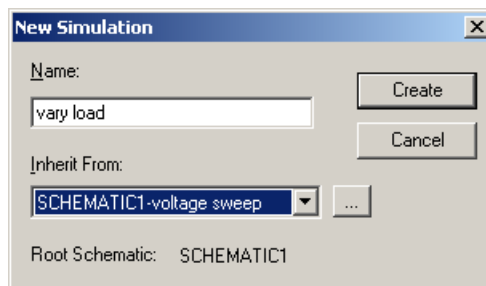
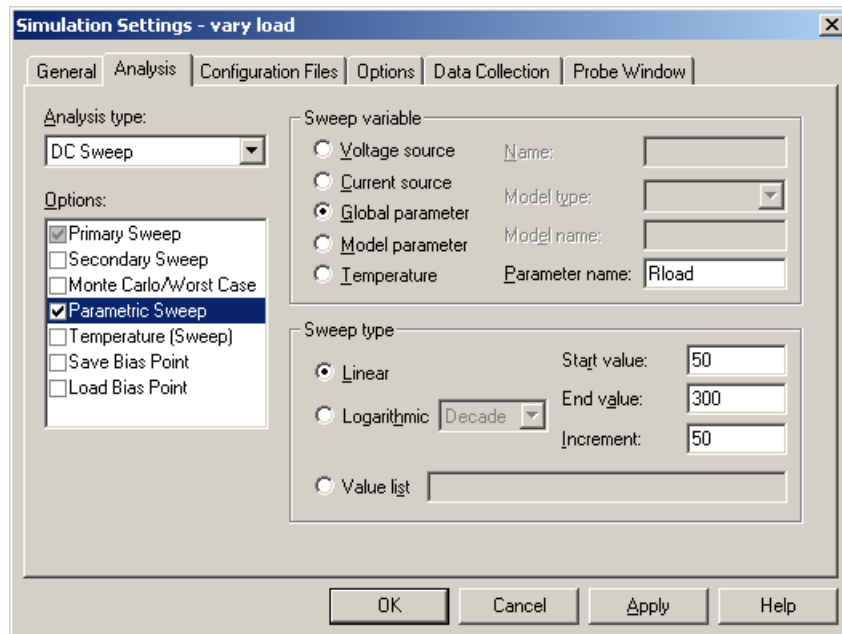
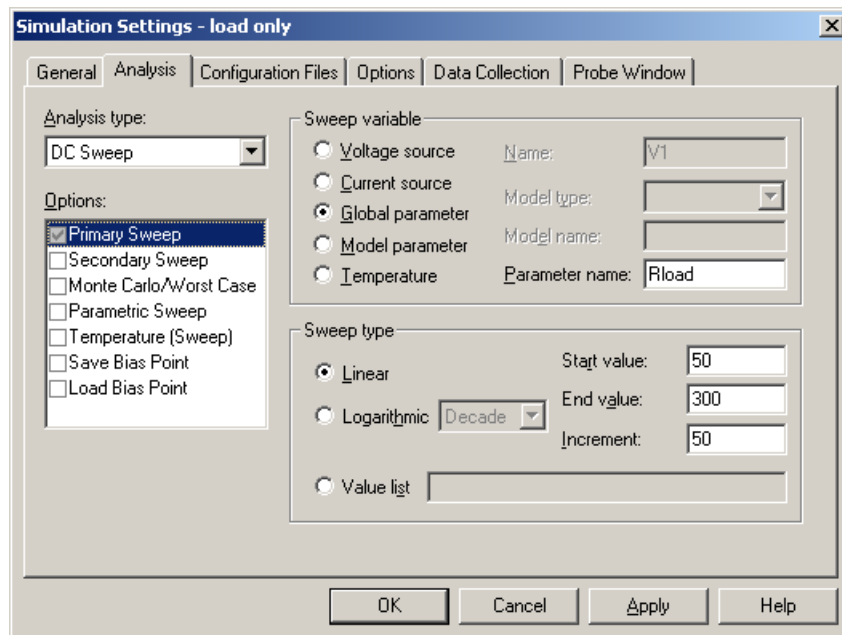
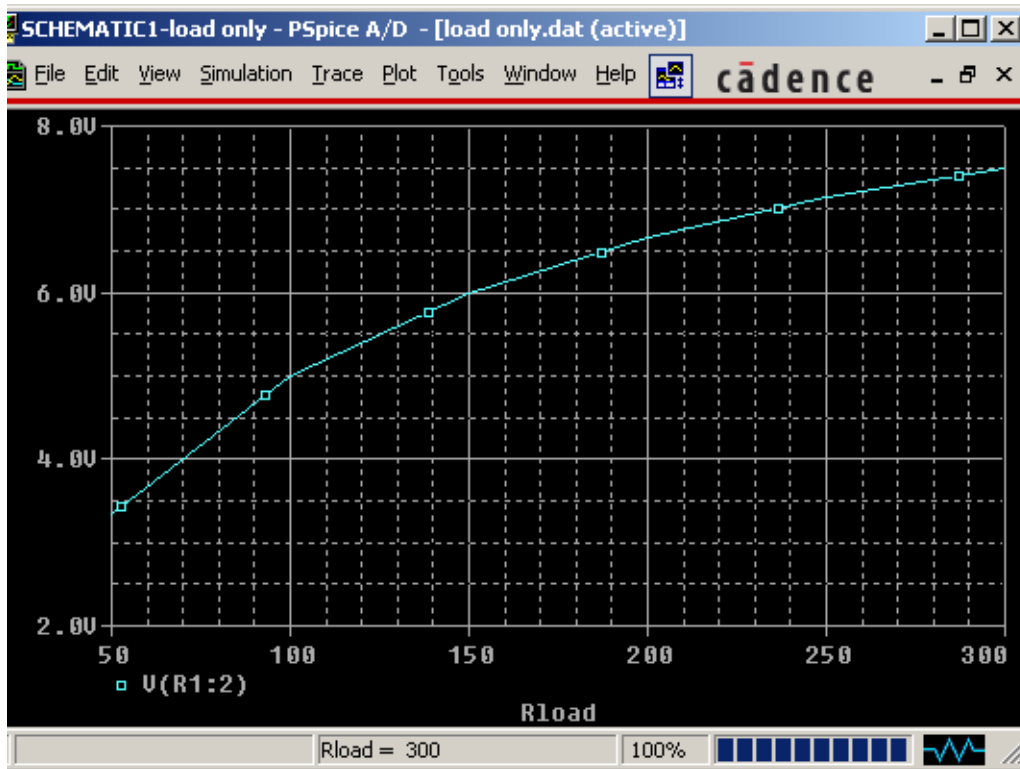

Figure 21: Dialogue box to create a new simulation profile, vary load, based on the previous profile voltage sweep.
Figure 22: Simulation settings for adding a parametric sweep to the previous DC sweep.
Figure 24: Simulation settings for a parametric sweep alone. The Analysis type is DC sweep.
Figure 25: Plot of voltage as a function of Rload.
- Create a new simulation profile. This time it is a good idea to base it on the previous profile, because we just want to add the parametric sweep to it, so select voltage sweep in the Inherit From list as in figure 21 on the previous page. Click OK, which brings up the usual Simulation Settings box shown in figure 22 on the preceding page.
In the previous simulation we performed a DC sweep for each value of the parameter. In fact the DC sweep is pointless because it just gives a straight line. We could instead plot the voltage as a function of Rload, keeping V1 constant at its original value of 10 V. In other words, we vary the parameter alone. This isn't done very often but is appropriate here. Figure 24 shows a suitable simulation profile. It is set up as a DC sweep although we do not sweep either a current or voltage. It looks rather like figure 22 on page 16 except that the parameter is used for the primary sweep, not the parametric sweep.
Figure 25 on the following page shows how the voltage depends on Rload. The curve would be smoother if more points were requested by reducing the increment in figure 24.